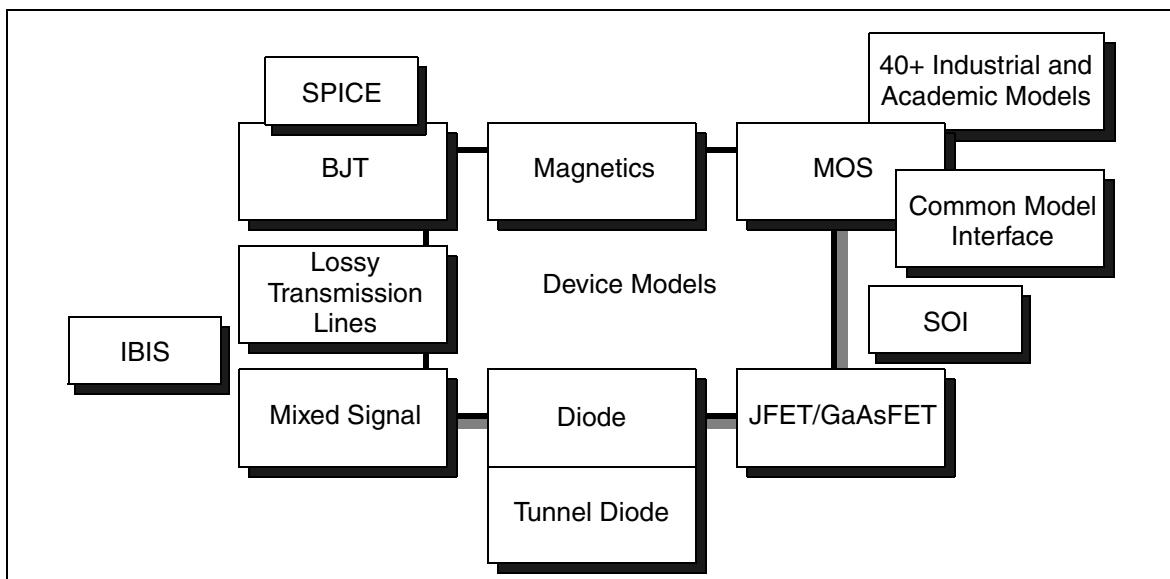

Figure 2    Synopsys HSPICE Modeling Technologies
- A number of circuit analysis types (see Figure 2 on page 6) and device modeling technologies.